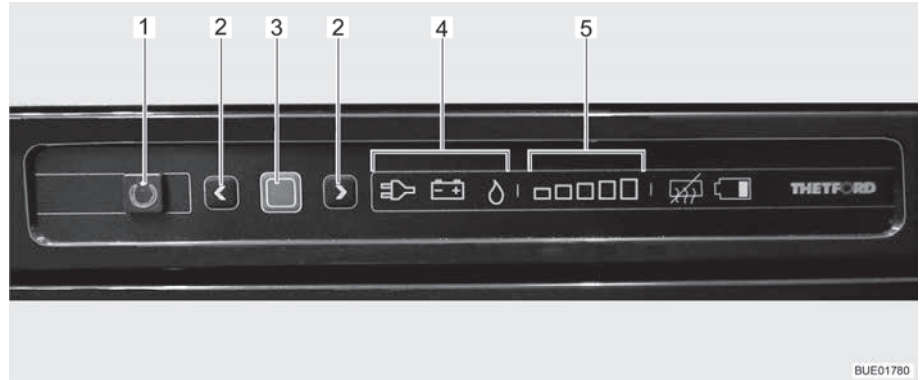

Fig. 106 Operating controls for the refrigerator
The current operating mode is indicated by an illuminated symbol (Fig. 106,4) on the operating unit.
When turned on the refrigerator automatically selects the thermostat position selected last. This position can be adjusted manually by using the arrow keys (Fig. 106,2). The illuminated bars of the cooling level indicator (Fig. 106,5) show the selected thermostat position. The refrigerating temperature for the three types of energy is set with the arrow keys. It takes a few hours till the refrigerator reaches its normal operating temperature. When changing over the operating mode the thermostat setting will be maintained. The refrigerating temperature is retained regardless of the type of energy being used.
- Press and hold the On/Off button (Fig. 106,1) for 1 second. Button (Fig. 106,1) lights up green. To save energy, after approximately 10 seconds the display is dimmed.
- Press and hold the confirmation button (Fig. 106,3) for about 2 seconds. The symbols for the operating modes (Fig. 106,4) are flashing.
- Press the arrow keys (Fig. 106,2) to change the operating mode.
- For gas operation, select the operating mode Gas using the arrow keys (Fig. 106,2). Gas supply is open. Ignition will take place automatically. A ticking sound can be heard until ignition has been completed successfully.
- Press confirmation button (Fig. 106,3).
- Press confirmation button (Fig. 106,3) again. The current cooling level is shown by the illuminated bars (Fig. 106,5).
- To change the setting, press the arrow keys (Fig. 106,2) until the desired setting is displayed.
- Press and hold the On/Off button (Fig. 106,1) for about 2 seconds. All lights go out. Refrigerator is switched off.